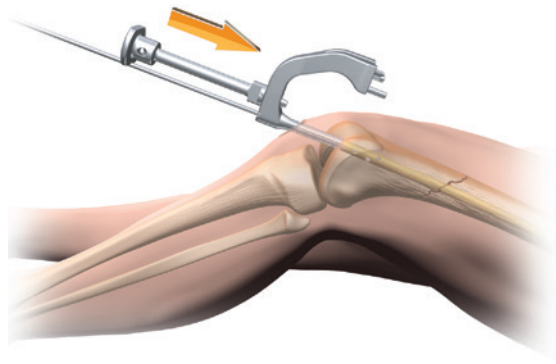

Figure 23
2. Attach the Cannulated Impactor-Medium (71675081) to the drill guide (Figure 23).